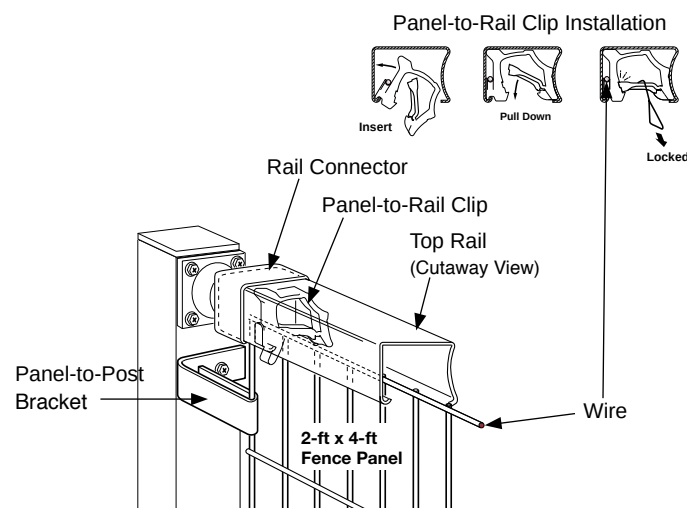

Fig. 16 Locations of Panel-to-Rail Clips and Panel Clips
- Repeat this process for each 8' section, positioning a clip in the center of each 2' panel (Fig. 16). Connect two panels together by using three panel clips.